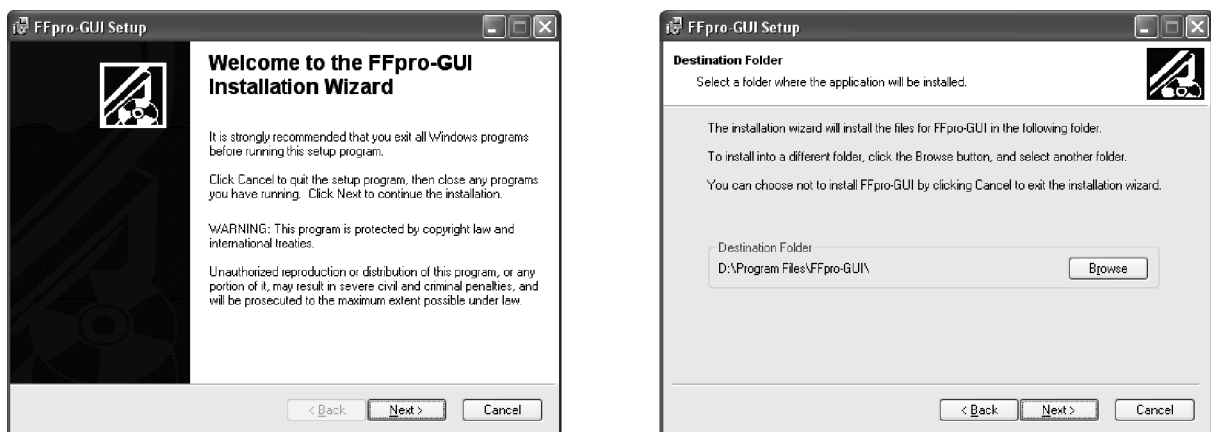

Figure 36
2. The FFpro-GUI Installation Wizard is started and prompts with the window shown in Figure 36 left.